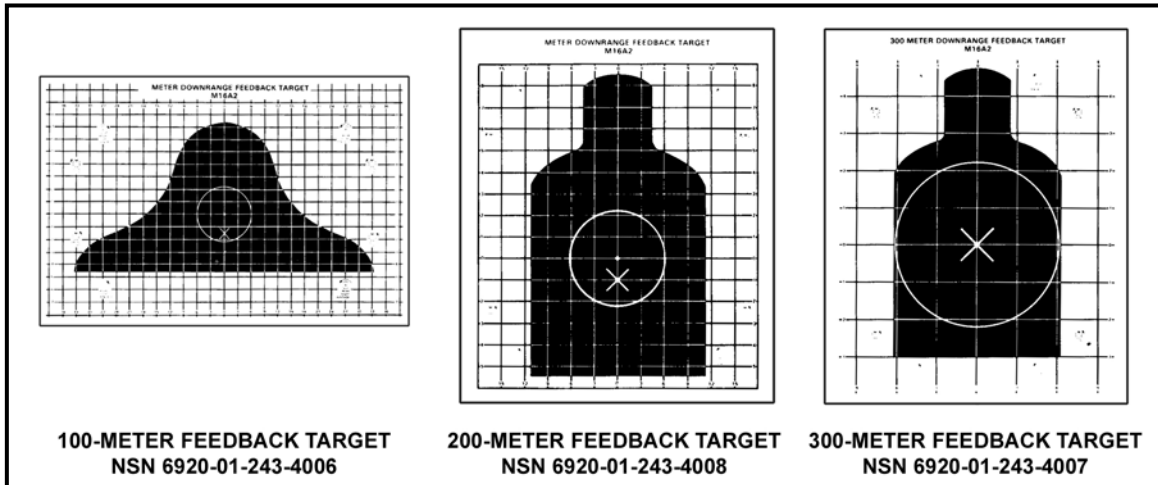

Figure 5-21. Downrange feedback targets.
(1) The KD targets are large enough to capture all bullets fired. The standard E-type and F-type silhouettes can be used if the standard KD targets are not available.
(2) The 16-centimeter circle on the 100-meter targets, 32-centimeter circle on the 200-meter targets, and the 48-centimeter circle on the 300-meter targets equate to the 4-centimeter zero target at 25 meters. If the soldier's shot group falls within the 4-centimeter circle at 25 meters they will fall within the circle on the target being shot. If the round falls outside the circle the round will clearly miss the 300-meter target in Figure 5-21.
(3) The X is located in the bottom portion of the circle to show the firer where he must aim so his bullets will hit target center of mass when his rifle is zeroed.
(4) The grid system on the targets in Figure 5-21 equates to the 25-meter zero targets. For example, one click on the front sight post equals one square on the 25-meter zero target and also equals one square on the target being shot. Information similar to that on the zero target has been overprinted to assist in applying sight adjustments.